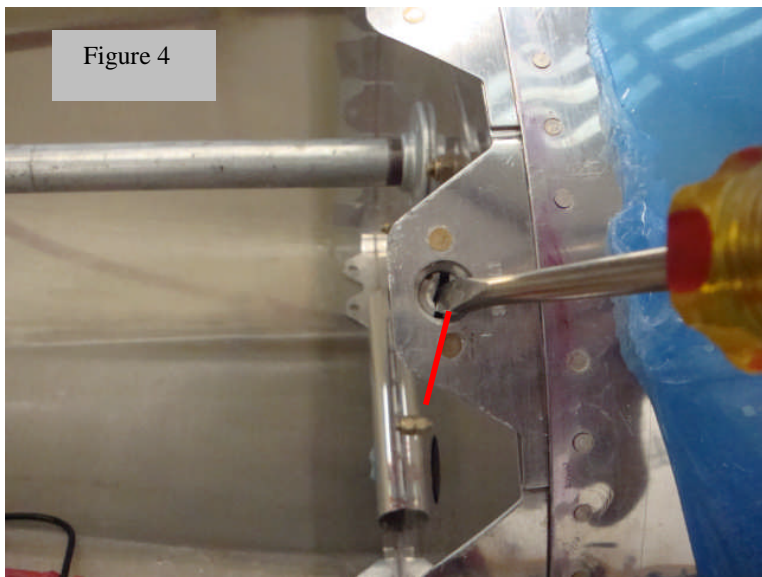

Figure 4
11) Unlock studs (Quick push-turn motion) and remove cowling. Turn each insert to align (approximately 1 o'clock to 7 o'clock as shown in Figure 4) the "slot" with the rivets. With the pick tool, snap the clips back into the locking groove and check that the insert is locked (the slot will be a few degrees past being aligned with the rivets).